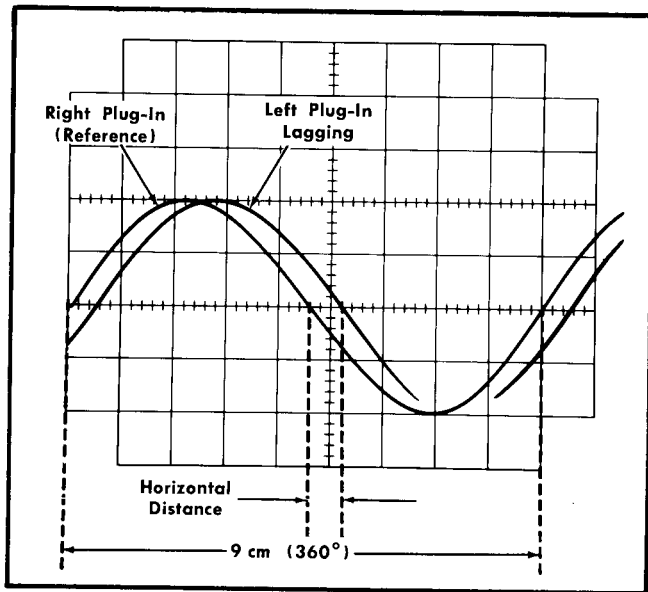
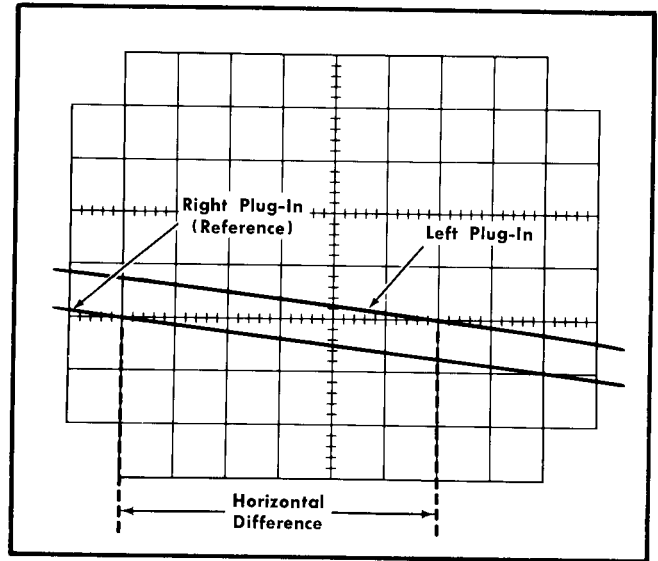

Fig. 2-24. Measuring phase difference.
Fig. 2-25. Using a sweep magnification to measure the phase difference.
10. Turn the B TIME/CM VARIABLE control until one cycle of the reference signal (the right plug-in) occupies exactly 9 cm horizontally (see Fig. 2-24). Each cm then represents 40° of the cycle (360° divided by 9 cm = 40° per cm). This is the phase factor.
Example: Assume a horizontal difference is 0.6 cm with a phase factor of 40° as shown in Fig. 2-24.
Example: If the sweep rate were increased 10 times with the magnifier, the adjusted phase factor would be 40° divided by 10 = 4° per cm. Fig. 2-25 shows the same signals used in Fig. 2-24 but with the Lower Beam DISPLAY MAG